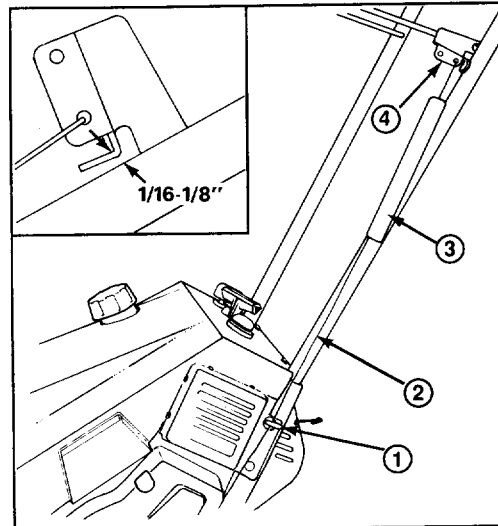

Figure 5
5. Hook spring in bottom hole of control bar bracket (Fig. 5).
6. Move control bar back toward handle until slack in cable is removed. The gap between the control bar bracket and handle should be approximately 1/16"–1/8". See insert, Figure 5. If an adjustment is required, refer to Adjusting Control Bar, page 8.